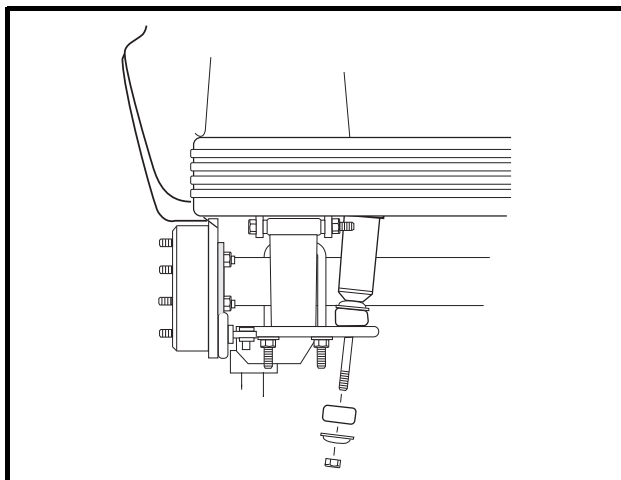

Figure 17-8 Disconnect Shocks
5. Disconnect the shock absorbers from their lower mounts (**Figure 17-8, Page 17-5**).